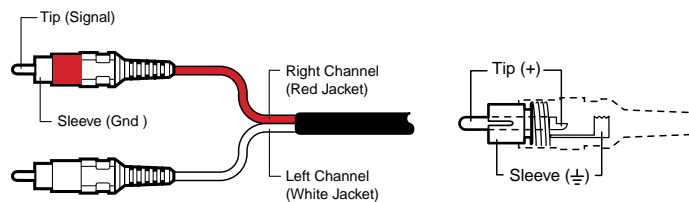

Figure 15. RCA Connector Wiring
- ③ **Input Audio (HDMI 201 A D Tx [Decora] only) connectors** — Plug an unbalanced stereo audio input into this pair, left and right, of female RCA connectors (figure 15).
- ⑫ **Output Audio** — Plug an audio device into this pair, left and right, of female RCA connectors (figure 15 on page 17) for an unbalanced stereo audio signal.